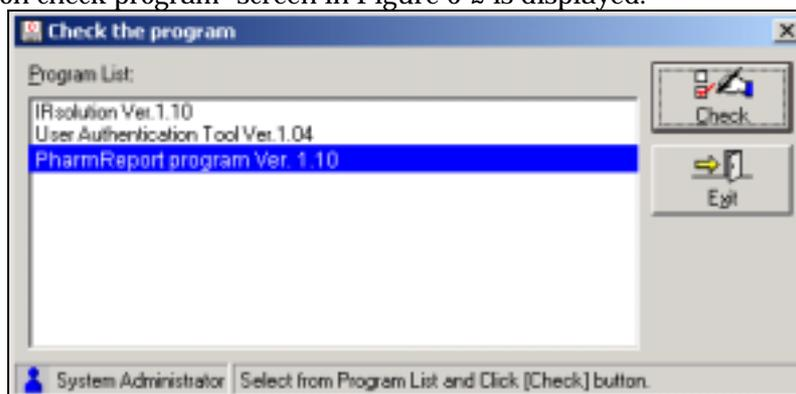

Figure 6-2 “Alteration check program” screen
2. When “Shimadzu user authentication tool” is installed, Login dialog box of Figure 6-1 is displayed. Input User ID and password. When the tool is not installed, the dialog in Figure 6-2 is displayed.
3. “Alteration check program” screen in Figure 6-2 is displayed.